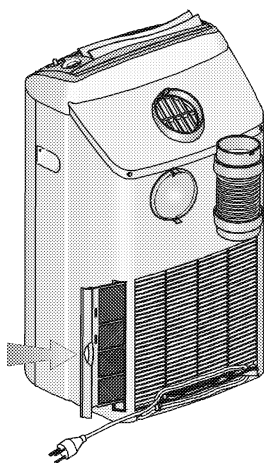

Figure 18
- Reinstall the main filter by inserting it in the back opening of the unit and pushing the filter inwards (See Figure 18).